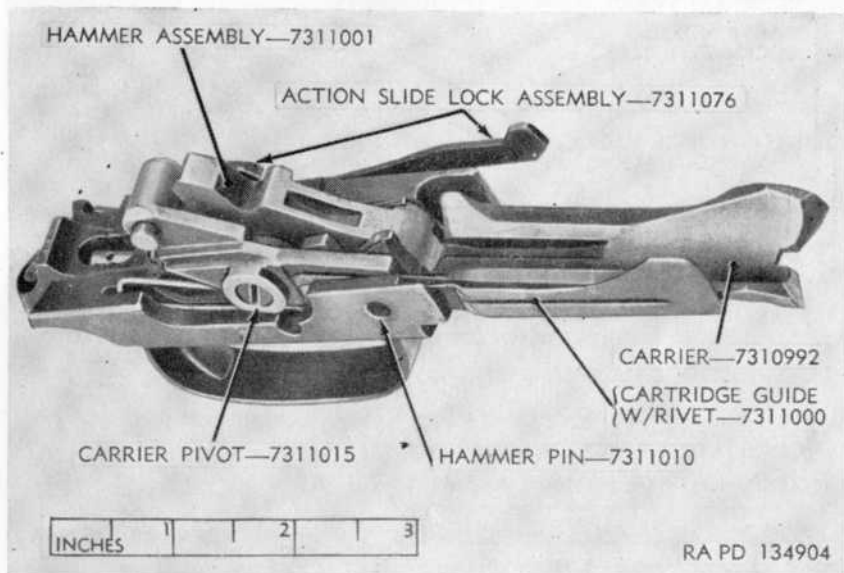

Figure 25. Trigger guard group for Winchester shotgun M12.
- (1) Remove the trigger guard group (fig. 25) as described in paragraph 35b.
- (2) Press trigger lock into firing position and pull the trigger to release the hammer.
- (3) Unscrew the carrier pivot. Lift the carrier assembly out of its seat in the trigger guard and remove the carrier spring. If replacement of the cartridge guide with rivet is necessary, remove it with a suitable drift. If replacement is required, then the carrier plunger screw may be removed and the carrier plunger spring and carrier plunger may be withdrawn from the carrier.
- (9) Install the trigger guard group (fig. 25) as described in paragraph 43c.